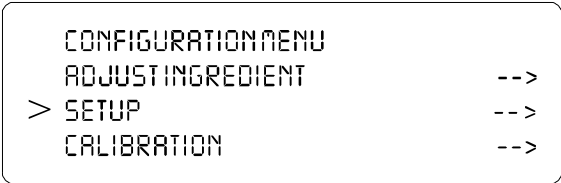

FIG. 53: CONFIGURATION MENU/SELECTING SETUP
Step 1. At the front panel click on the Setup/3 button. The Configuration Menu appears. (See Fig. 53)